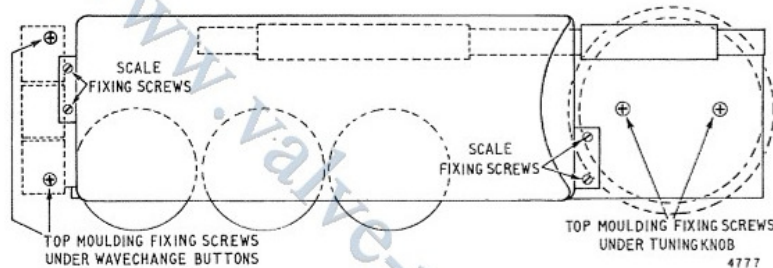

Fig. 1. Top view of chassis showing fixing screws.
- 2 Undo the two screws concealed beneath the tuning knob, also the two screws beneath the Medium and Bandsread press buttons, (see Fig. 1).